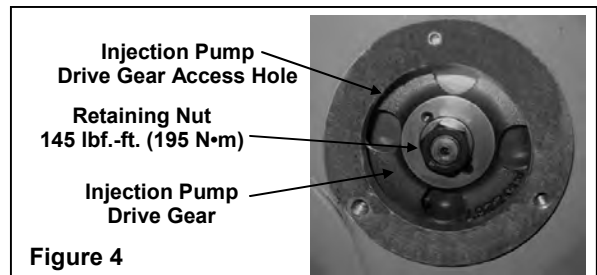

Figure 4
4. Install the drive gear retaining nut and washer (Figure 4). Do not tighten the nut at this time.